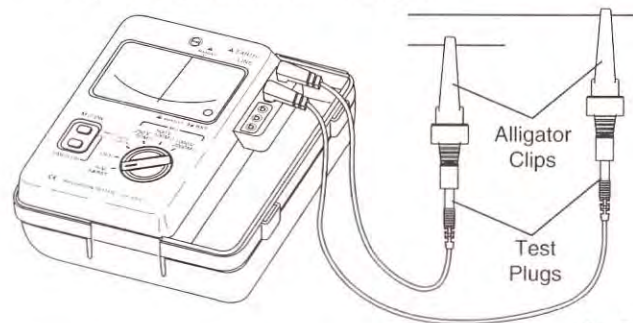

fig. 5
7. Turn on power to the circuit to be measured and read the voltage on the meter. Refer to the figure 5.